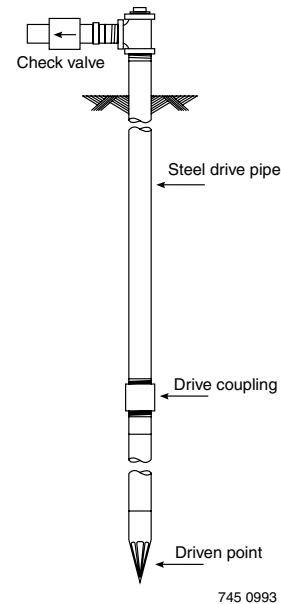

Figure 2 – Driven Point Installation
1. Connect the suction pipe to the drive point (Figure 2). Keep horizontal pipe run as short as possible. Use PTFE pipe thread sealant tape on male pipe threads. Multiple well points may be necessary to provide sufficient water to pump.
2. To aid priming with well point installations, install a check valve as shown in Figure 2. Ensure the check valve's flow arrow point toward the pump.